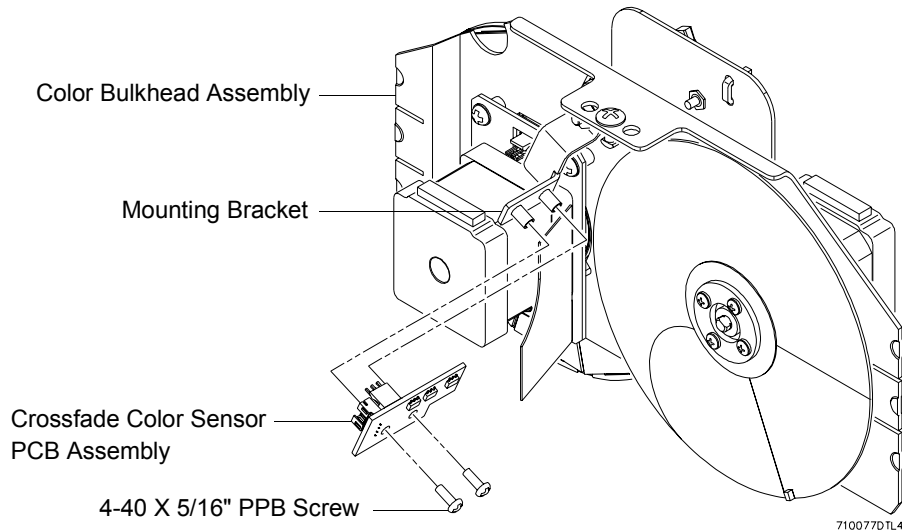

Figure 2-8: Crossfade Color Sensor PCB Assembly Replacement
- Step 3. At color bulkhead assembly, remove two 4-40 X 5/16" PPB screws, and remove crossfade color sensor PCB assembly from mounting bracket (**Figure 2-8**).